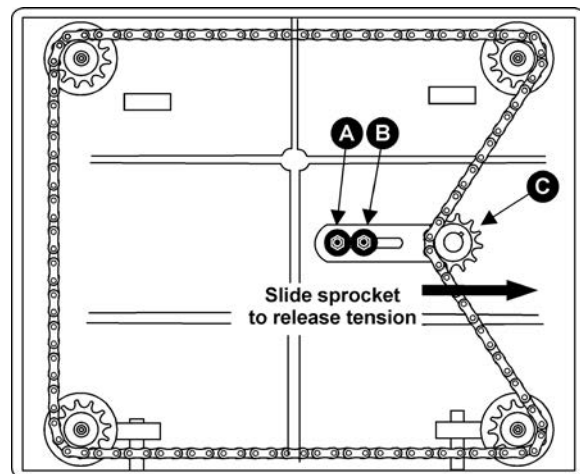

Figure 17
Refer to Figure 17
2. Tilt planer on its side to expose underside of base, as shown in Figure 17.
3. Remove bolt (A) and loosen bolt (B) which will allow you to move the idler sprocket assembly (C) far enough to release tension on the chain.